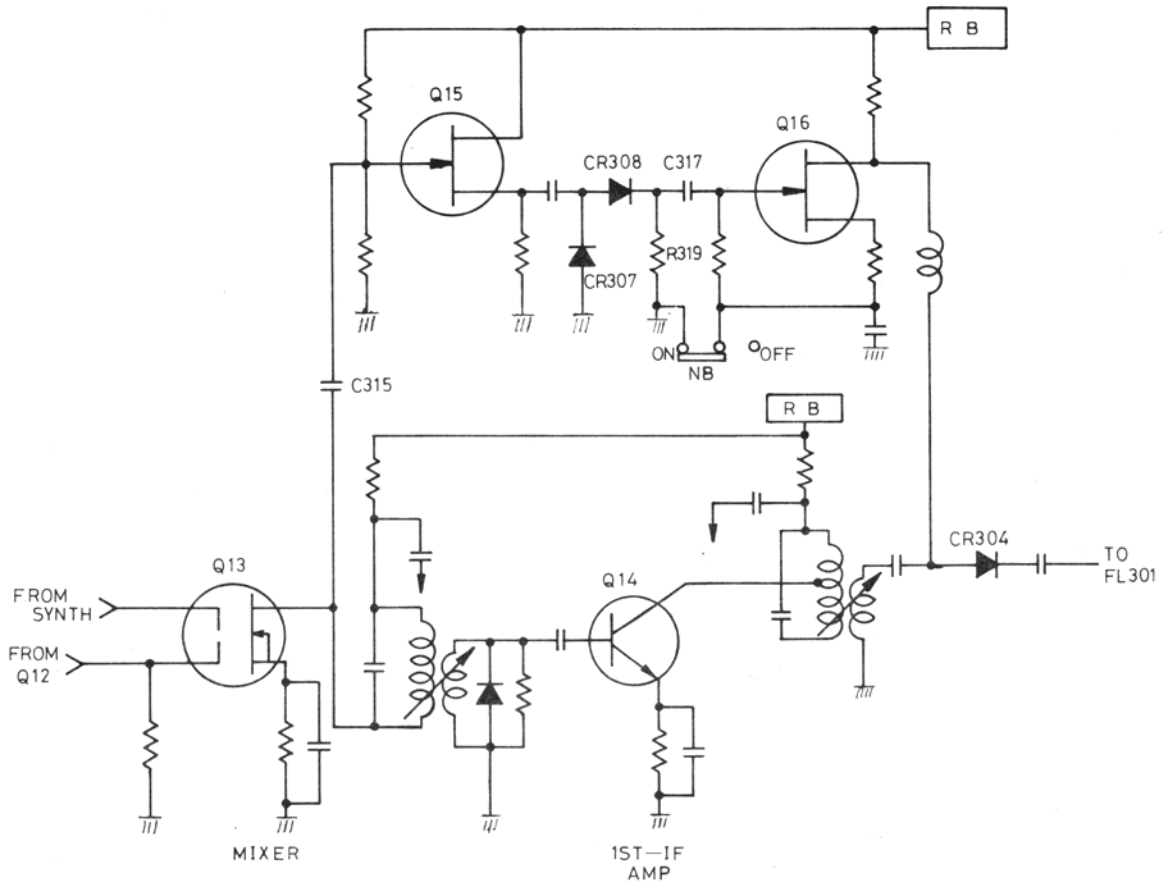

Figure 2-7 Noise Blanker Circuit
2.5.4 Noise Blanker (Refer to Figure 2-7)